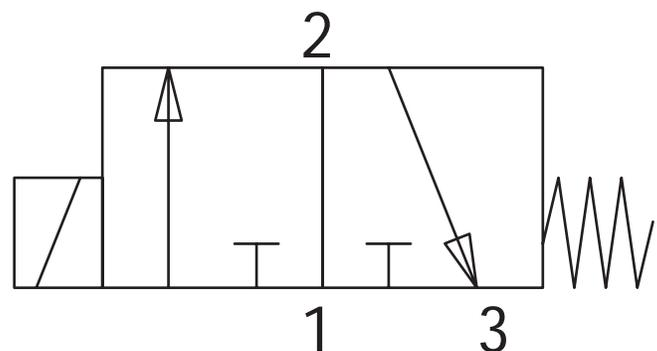
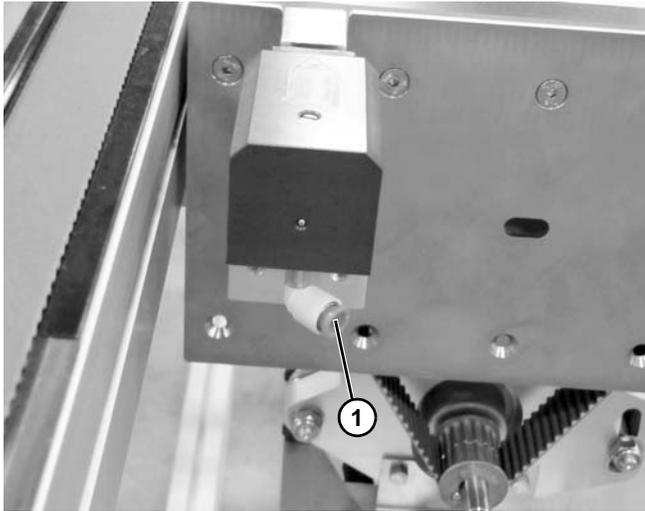

Figure 36
Figure 38
Dorner recommends using a 3 port, 2 way solenoid valve (**Figure 36**) to operate cushion reset.
3. Connect port 2 (Figure 36) of the 3 port, 2 way valve to the cushion reset port (Figure 38, item 1).